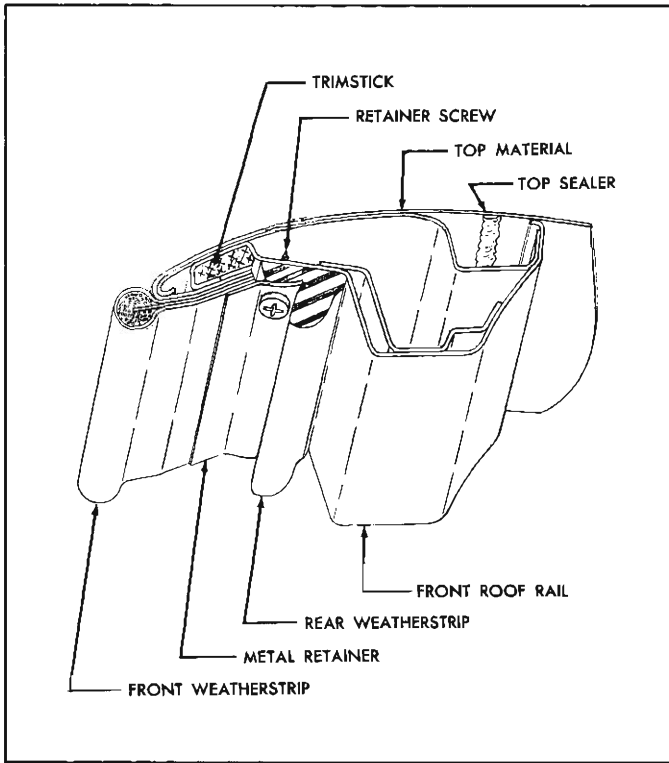

Fig. 53—Front Roof Rail Assembly
3. At the front of body, raise front roof rail, remove retainers and front weatherstrips, detach top material from front roof rail (fig. 53).